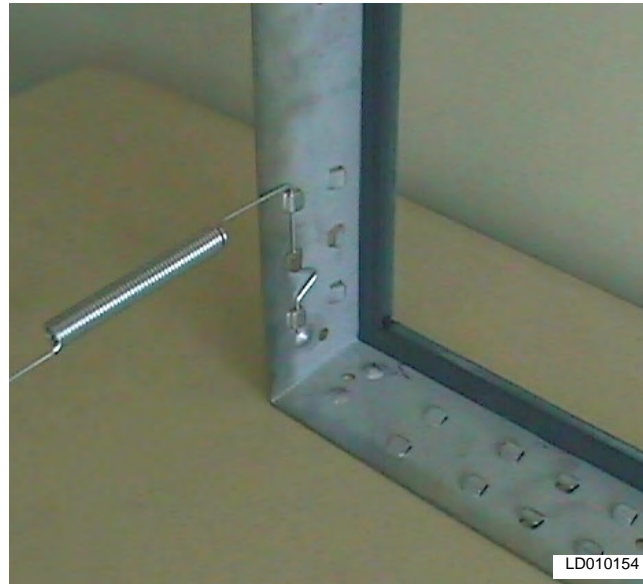

FIG. 4-29 – CORRECT LATCH/KNOCKOUT CONFIGURATION.
3. The latch installation should now be complete. The latch should now be “trapped” within the three (3) knockouts.
4. Repeat the latch installation with the remaining latches. *Note the orientation of the latch to the knockouts in Fig. 4-29.*